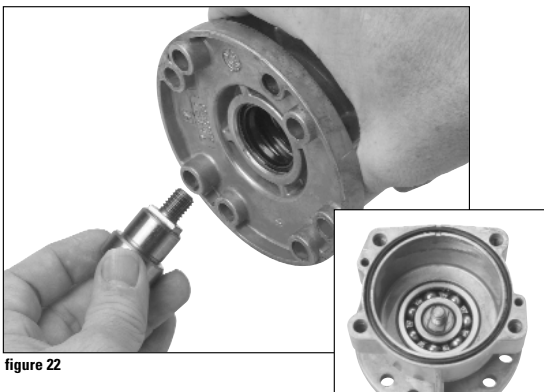

figure 22
3. Turn housing over and knock out the bearing by tapping it towards the front of oil the reservoir using a suitable tool. (figure 22)